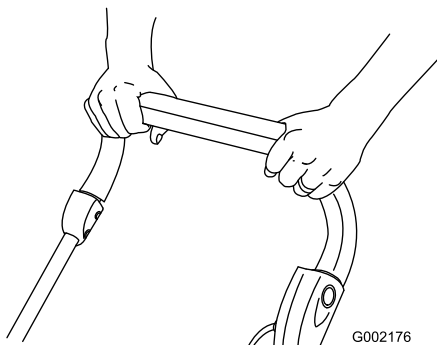

Figure 17
5. Hold the control bar to the handle and release the button (Figure 17).